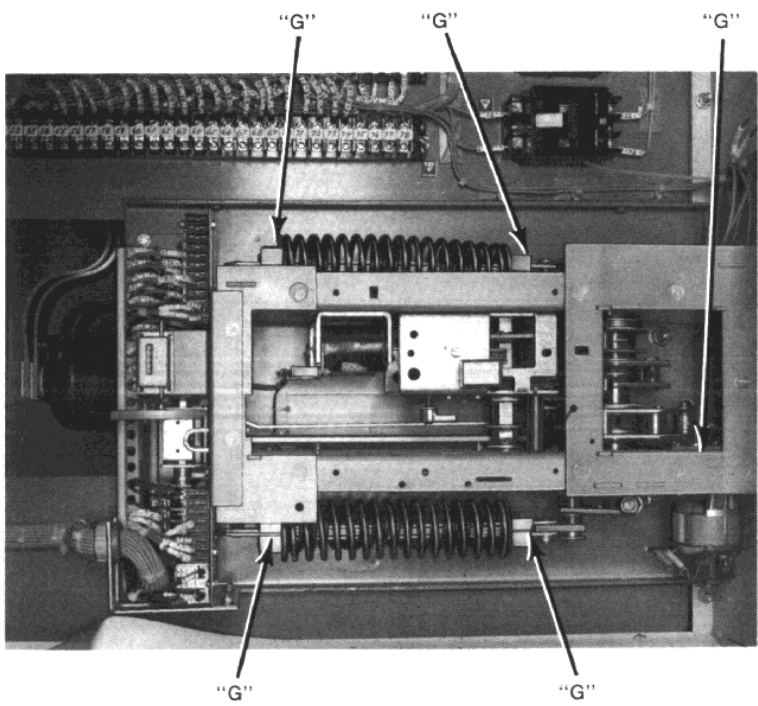

Figure 7
- 2. The spring guides and gears designated "G" should be greased lightly with a low temperature grease such as automotive molybdenum disulfide. (Figure 7)